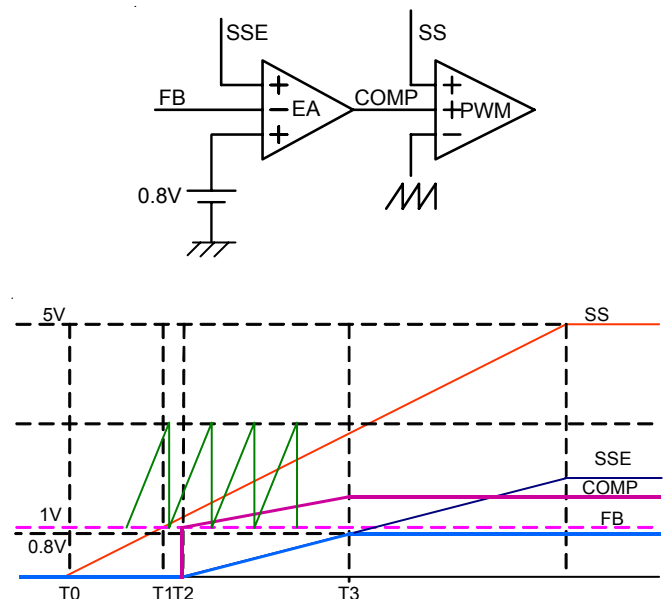

Figure 1. Timing diagram of softstart
The behavior of RT9232 Soft-Start can be simply described as shown as Figure.1 below; and the Soft-Start can be sliced to several time-frames with specific operation respectively.
The RT9232 initiates the softstart cycle as shown in Figure 1 when POR function is OK. An internal $10\mu A$ current source charges an external capacitor on SS pin (C_{SS}) to 5V. The softstart function produces an SSE signal that is equal to $(SS-1.2V)/2$. Error Amplifier (EA) and PWM comparator are triple-input devices. The non-inverting input